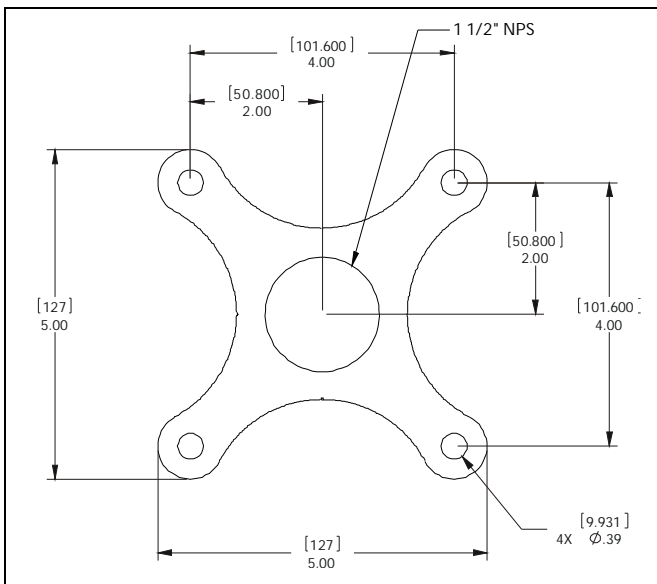

Figure 1
1. Use 5/16-18" x 2-1/2" (minimum) Grade 2 lag screws (not provided) to secure CMA mount to the joists or wood framework, using the bolt holes noted. See Figure 1 for dimensions details.